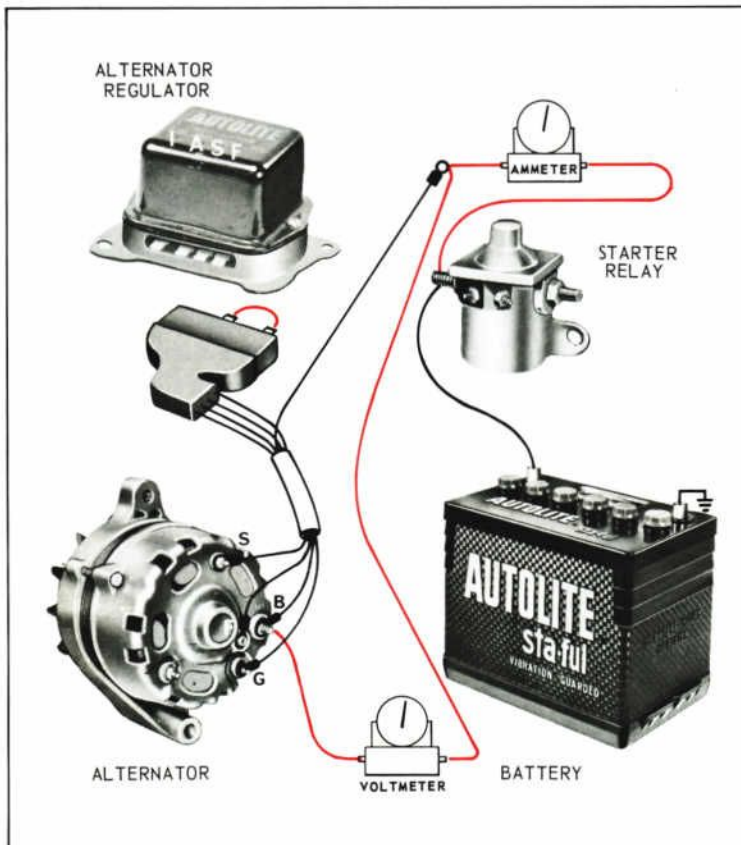

FIGURE 28. INSULATED CIRCUIT RESISTANCE TEST
- Insulated Side – Refer to Figure 28.